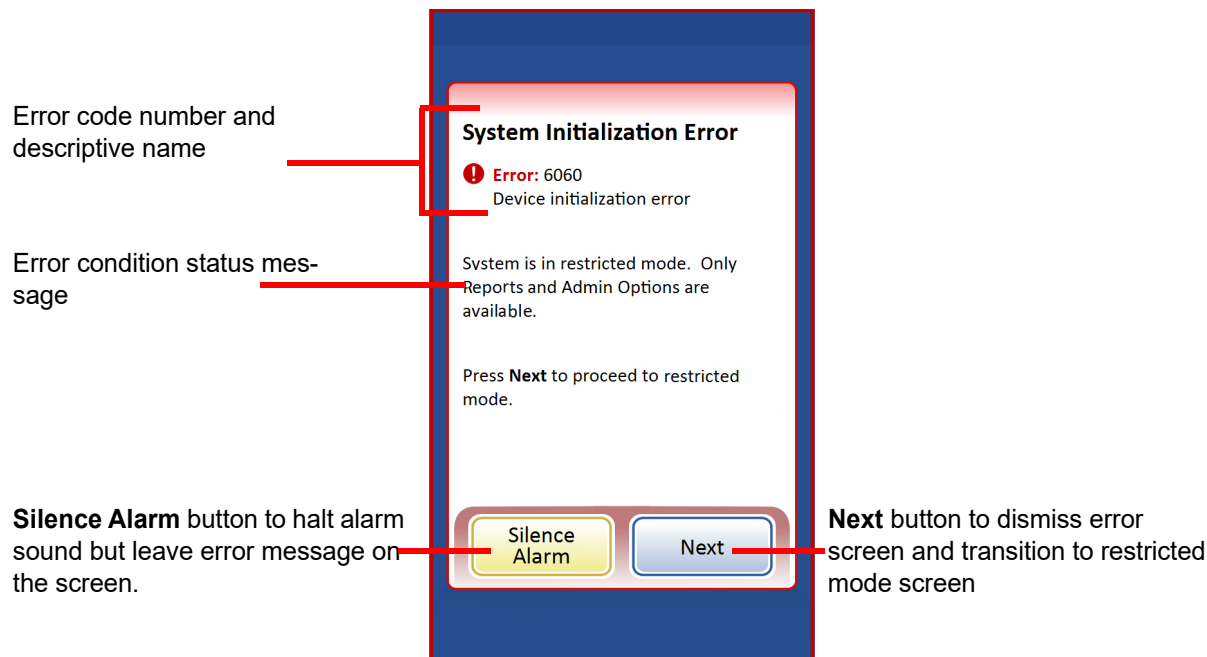

Figure 9-12 System detected an error
- Display the error message and sound the audible alarm, if enabled (see Figure 9-12.) The system attempts to recover (a minute or less).